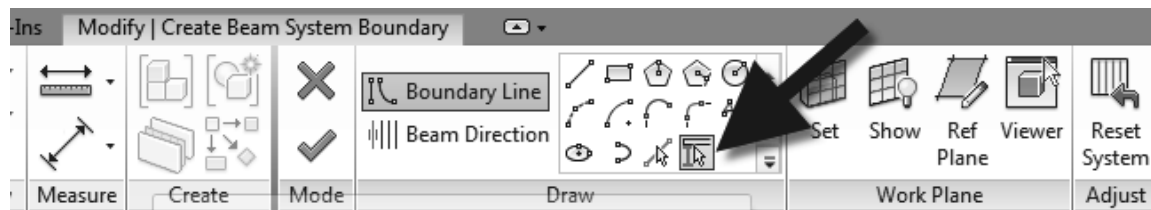

FIGURE 8-4.15 Ribbon: Beam system tool while in Sketch mode
39. Click the **Pick Supports** icon in the *Draw* panel of the *Ribbon* (Figure 8-4.15).